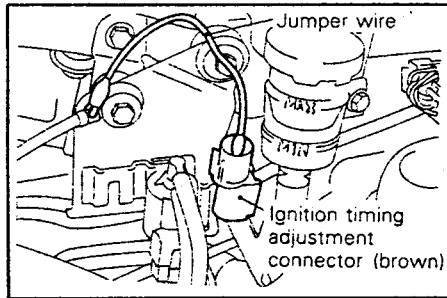

Fig. 5.6 — Connecting the jumper wire to the ignition timing adjustment connector on the Space Runner.
- Switch of the ignition and remove the waterproof connector from the ignition timing adjustment connector (brown colour). The location of the connector is shown in Figs. 5.6 and 5.7 for the two engines/models. Connect the jumper wire with one end to the brown connector and with the other end to a good earth point. By connecting this terminal to earth, the basic ignition timing will be indicated.